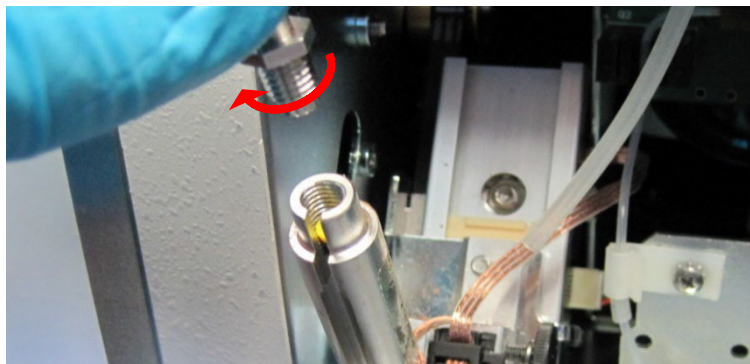

Figure 28
- 8.4. Screw the replacement Needle Tip into the Needle Piston Assembly. Tighten as much as possible by hand then tighten another ½ turn with the Open-End Wrench. Figure 28